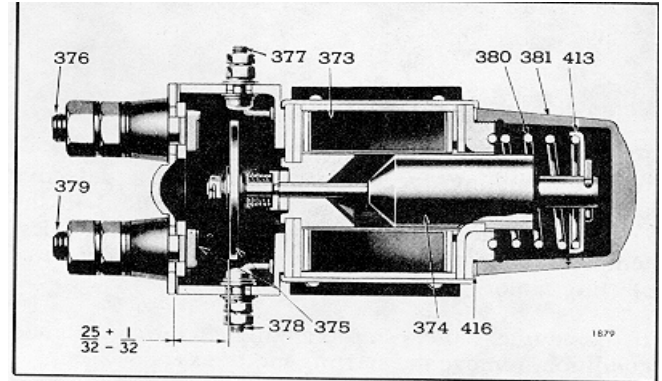

Fig. 1 - Typical Solenoid Switch Assembly
When the instrument panel starting switch contacts are closed, a circuit is completed across the solenoid switch terminals (377) and (378) and through the coil (373), Fig. 1. The resultant magnetic field created in the core of the coil overcomes the tension of the return spring (380), Fig. 1, and the plunger (374) is drawn downward into the magnetic field, carrying the contact disc (375) with it. When the contact disc touches the contacts (376) and